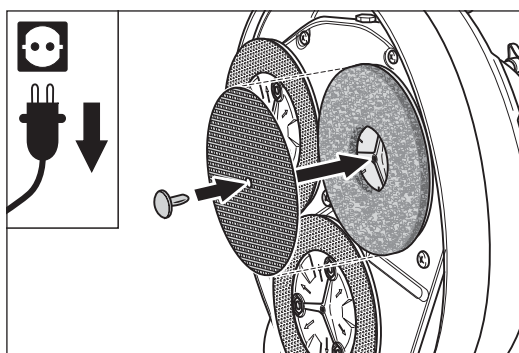

Fig. 35 The sanding screens are fixed quickly and securely to the pad base using the plastic plug.
- 5 Place the sanding screen on the pad base. Insert the plastic plug through the sanding screen into the central hole in the sanding plate (fig. 35).